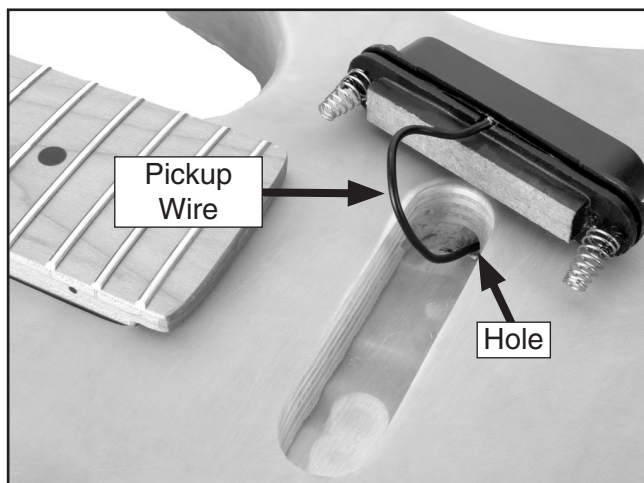

Figure 11. Pickup installation location.
2. Insert the pickup wire (**Figure 11**) through the hole in the pickup mortise and into the circuit board mortise.